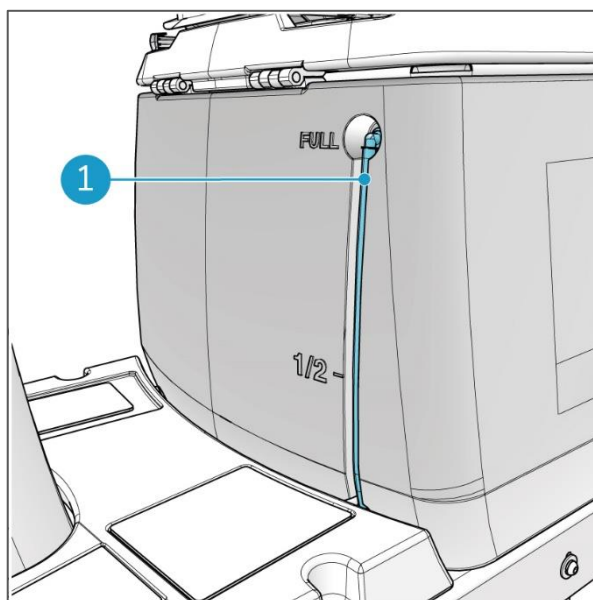

Figure 6
The optical solution level indicator is situated on the solution tank (Figure 6, pos 1) underneath the seat. This ensures that the solution level in the tank can be checked during filling of the tank. The floating switch inside the tank avoids that the pump runs dry. When it is activated, all cleaning functions of the i-drive® stop. You are still able to drive it.